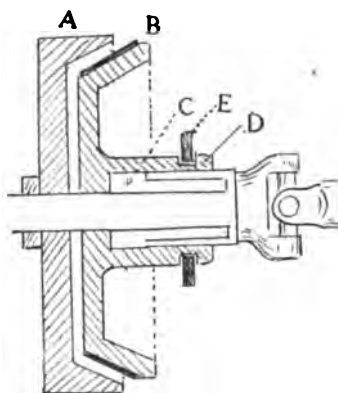

Fig. 5
A form of leather-faced cone-clutch is shown in section in Fig. 5. In this type the fly-wheel A is hollow, and its interior circumference is sloped, or at an angle, to the rim. Within this is a cone-shaped wheel or disk, on the face of which is a layer of leather (B). This leather is held up tight against the inside of the wheel by a stiff spring (C) and the friction thus obtained is sufficient to transmit the power of the motor to the driving mechanism of the car. Back of the cone, and connected to it, is a grooved ring (D) over which a dog or collar (E) fits, and this is connected by an arm and rod to a foot-pedal. By pressing forward on the foot-pedal the clutch is drawn back and the wheel revolves freely, while the clutch, relieved of the friction, remains stationary. When this takes place the gear-shifting is done; and, as the revolving wheels and axles carry the driving-gears around and the forward or motor end of the gear-shaft is free, the gears may be readily shifted without danger of injury. The friction-disk clutches consist of a number of circular disks of steel and bronze or other metal keyed to the drive-shaft and clutch-casing alternately. These disks are held firmly together by a strong spring and are released by forcing back the spring by a pedal, as in the cone-clutch. Cork-insert clutches act in the same way, but instead of a